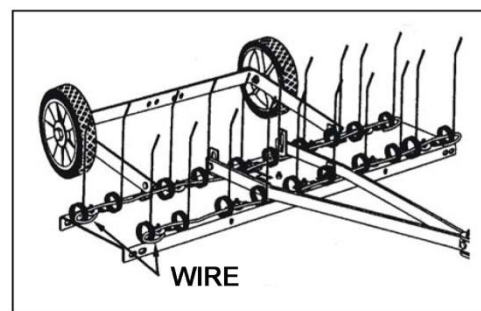

Figure 8
10. Insert the wire for the spring adjustment of the tines. Bend the ends of the wire to secure it (fig. 8).